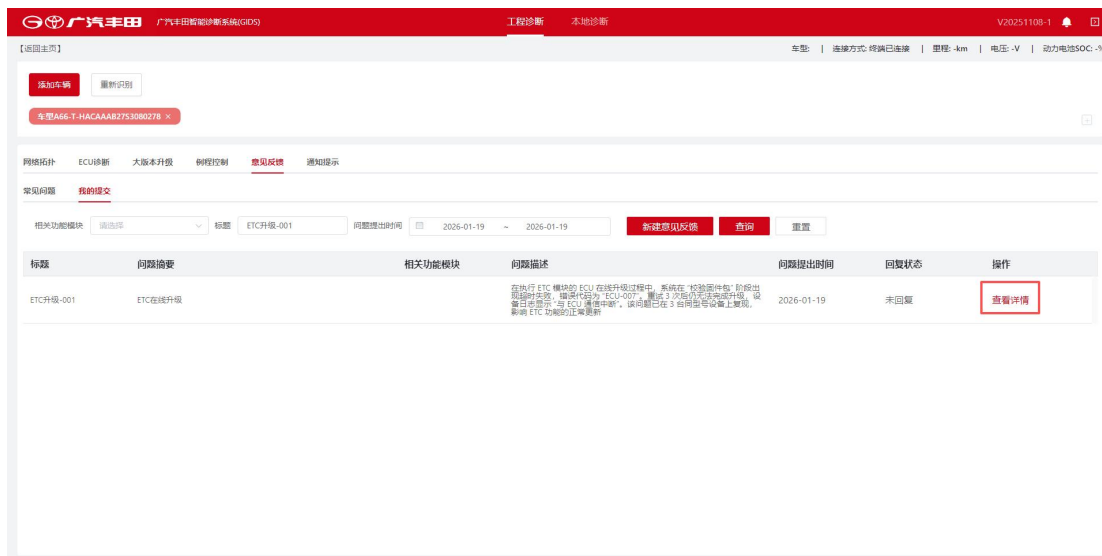

Figure 8-7 View Details
3. In the list, select an FAQ entry and click View Details, as shown in Figure 8-7 View Details. The user clicks [View Details] to open